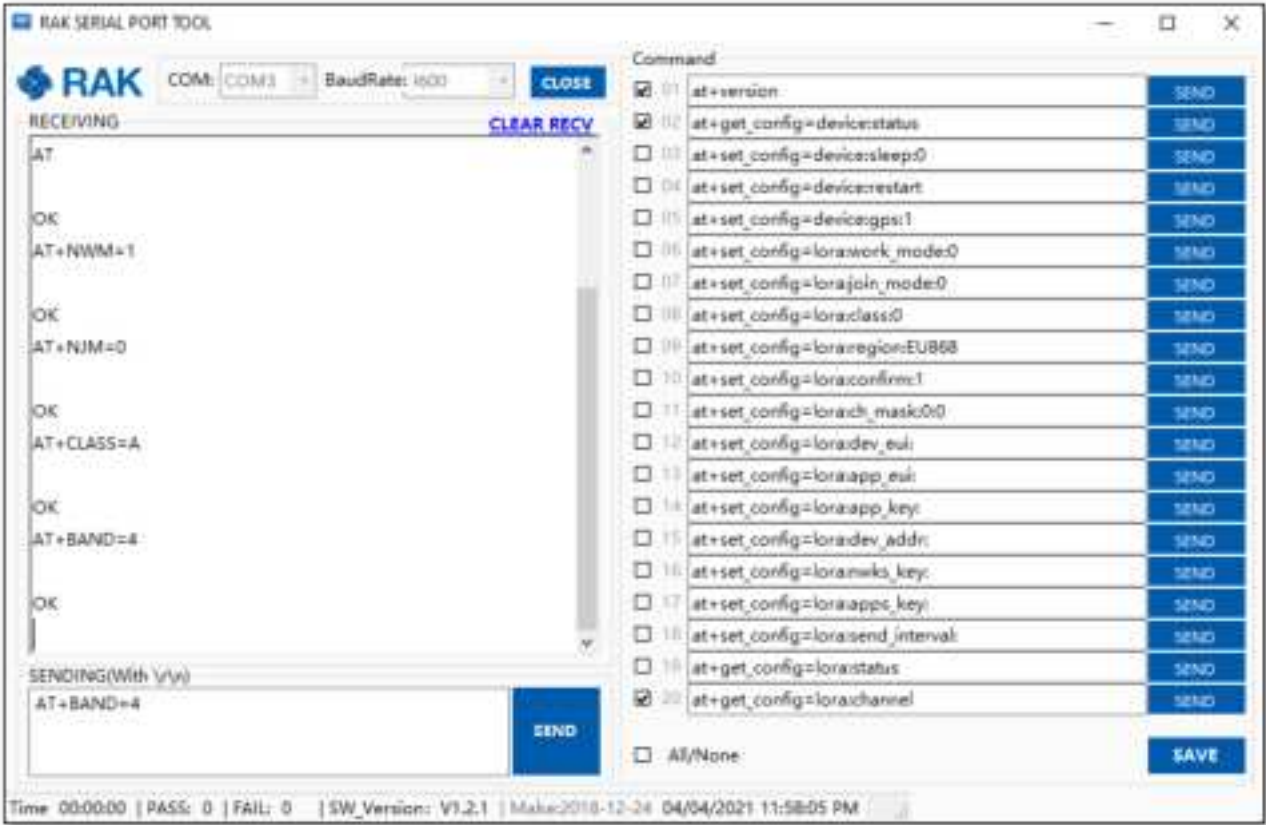

Figure 64: Configuring LoRa Parameters
- Go to the Application section, as shown in **Figure 64**.